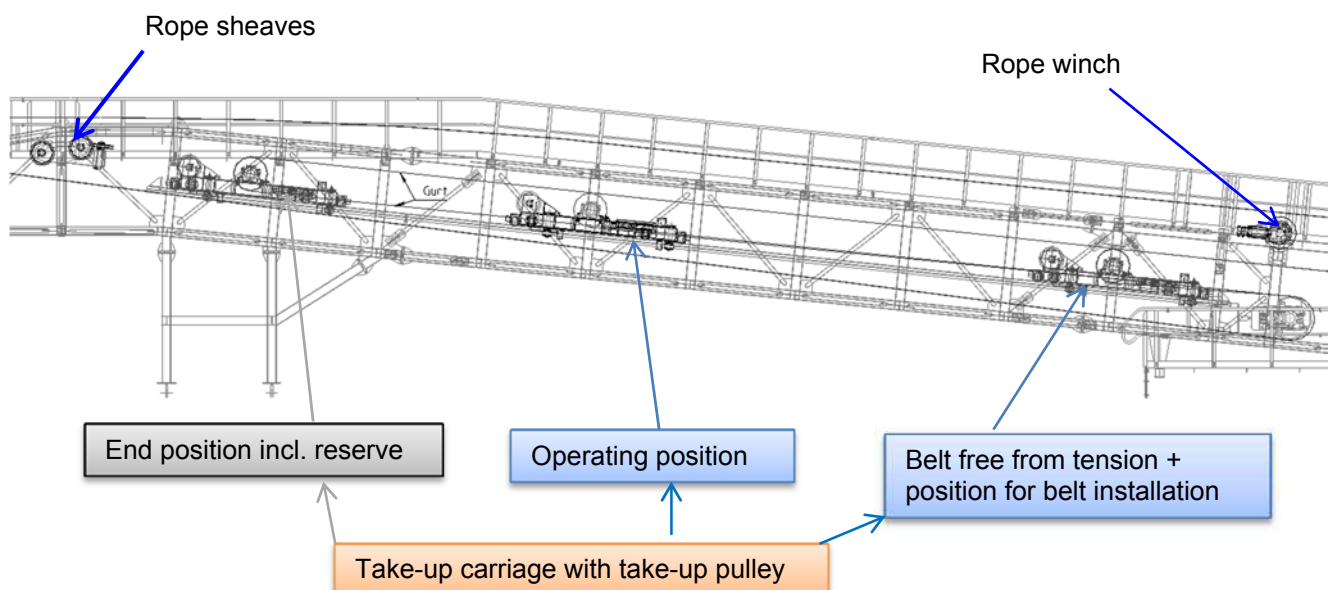

Figure 16: Take-up station U2-U4
- Move the take-up carriage into the end position "Belt free from tension (see Figure 16), secure the take-up carriage against shifting and take the winch out of operation.